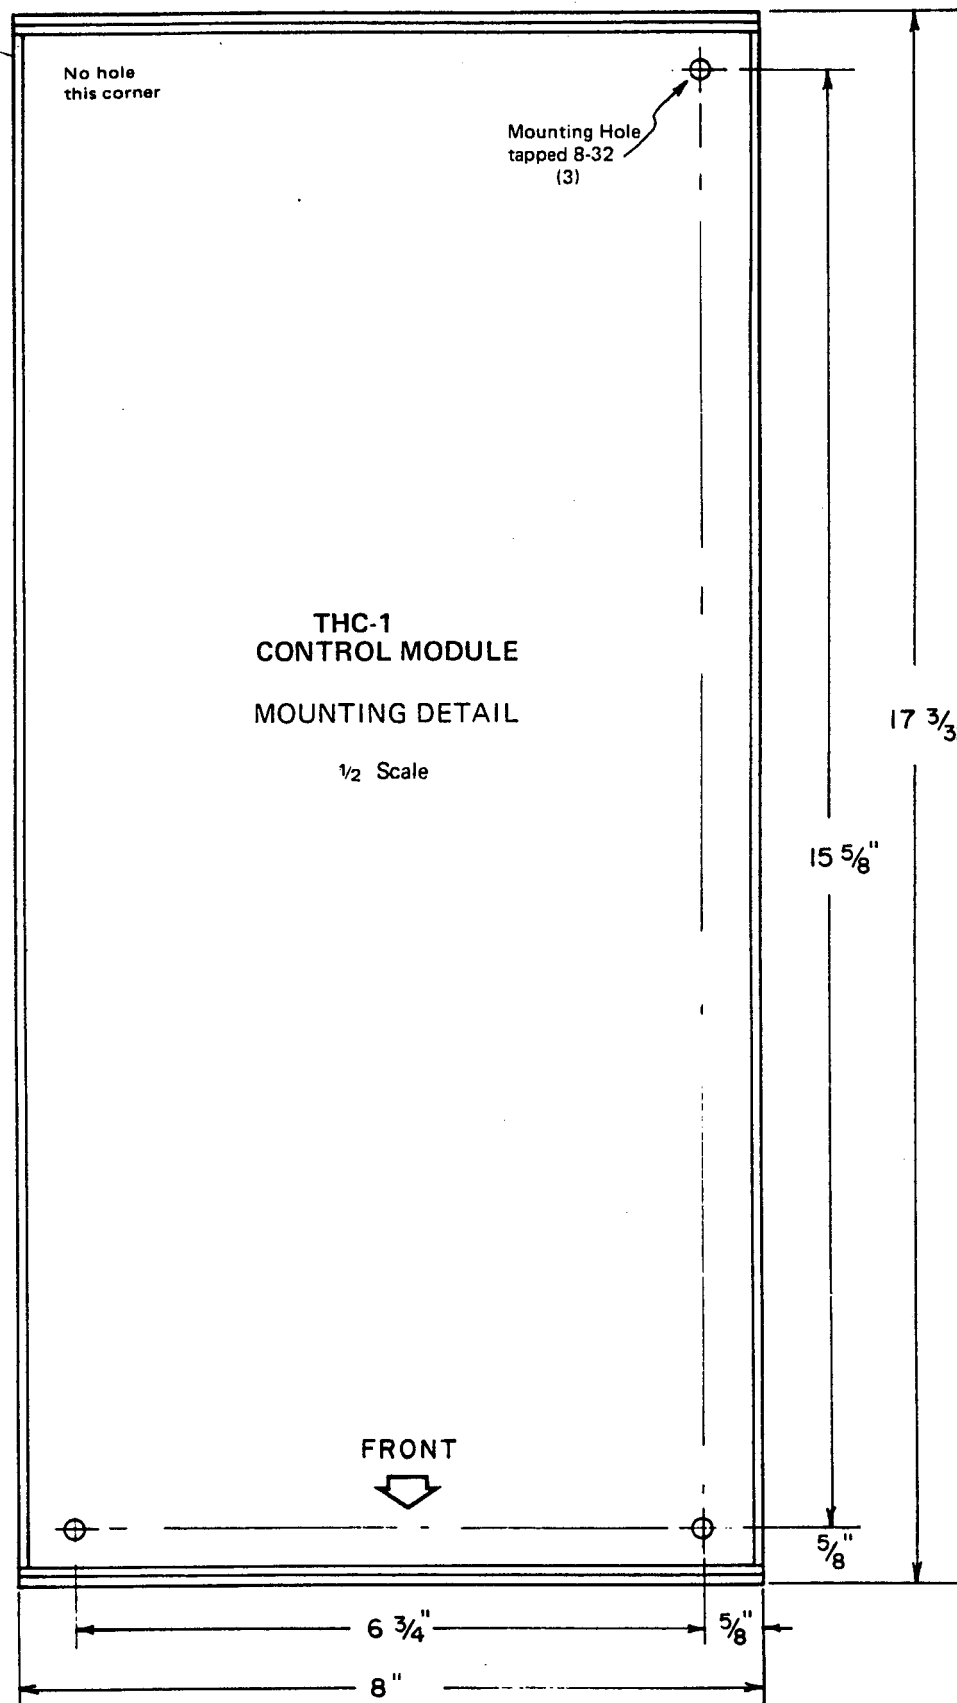

Figure 7
- FIGURE 7 CONTROL MODULE MOUNTING DETAIL